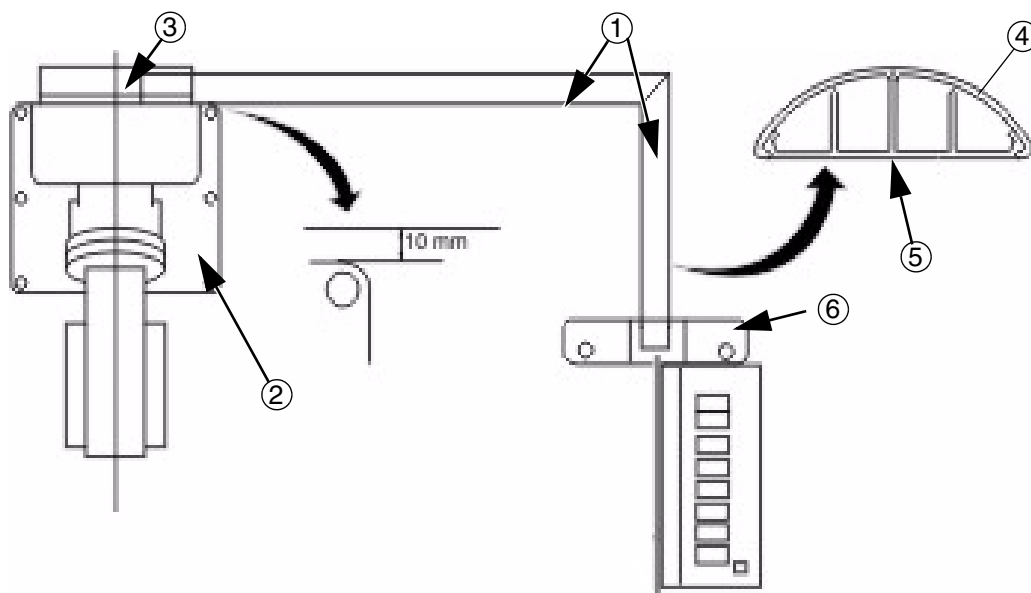

Fig. 1 Installing the cable ducts (top view)
1. Position the cable ducts (1/Fig. 1) to the stand and the radiation shield respectively.
2. Leave sufficient space, approx. 10 mm between the cable ducts (1/Fig. 1) and the base plate of the stand (2/Fig. 1) to allow for the mounting of the cable outlet cover (3/Fig. 1).
3. Check that the cable duct (1/Fig. 1) is slightly overlapped by the cable outlet cover (3/Fig. 1).
1. Mark the outlines of the cable ducts (1/Fig. 1) on the floor.
2. Cut the bottom of the cable ducts (5/Fig. 1) and the cable duct cover (4/Fig. 1) to proper length.
Fig. 1 shows a right-angled installation of the cable ducts.
3. Fasten the bottom plate of the cable ducts (5/Fig. 1) to the floor according to the marking using double-sided adhesive tape.
4. At the radiation shield, cover the cable entry not used with the enclosed cover plate (6/Fig. 1).